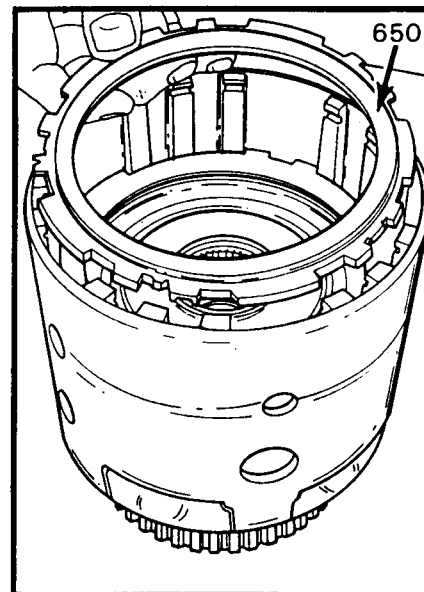

Figure 131
5. Install the proper forward clutch backing plate as shown in Figure 131, with stepped side facing up.